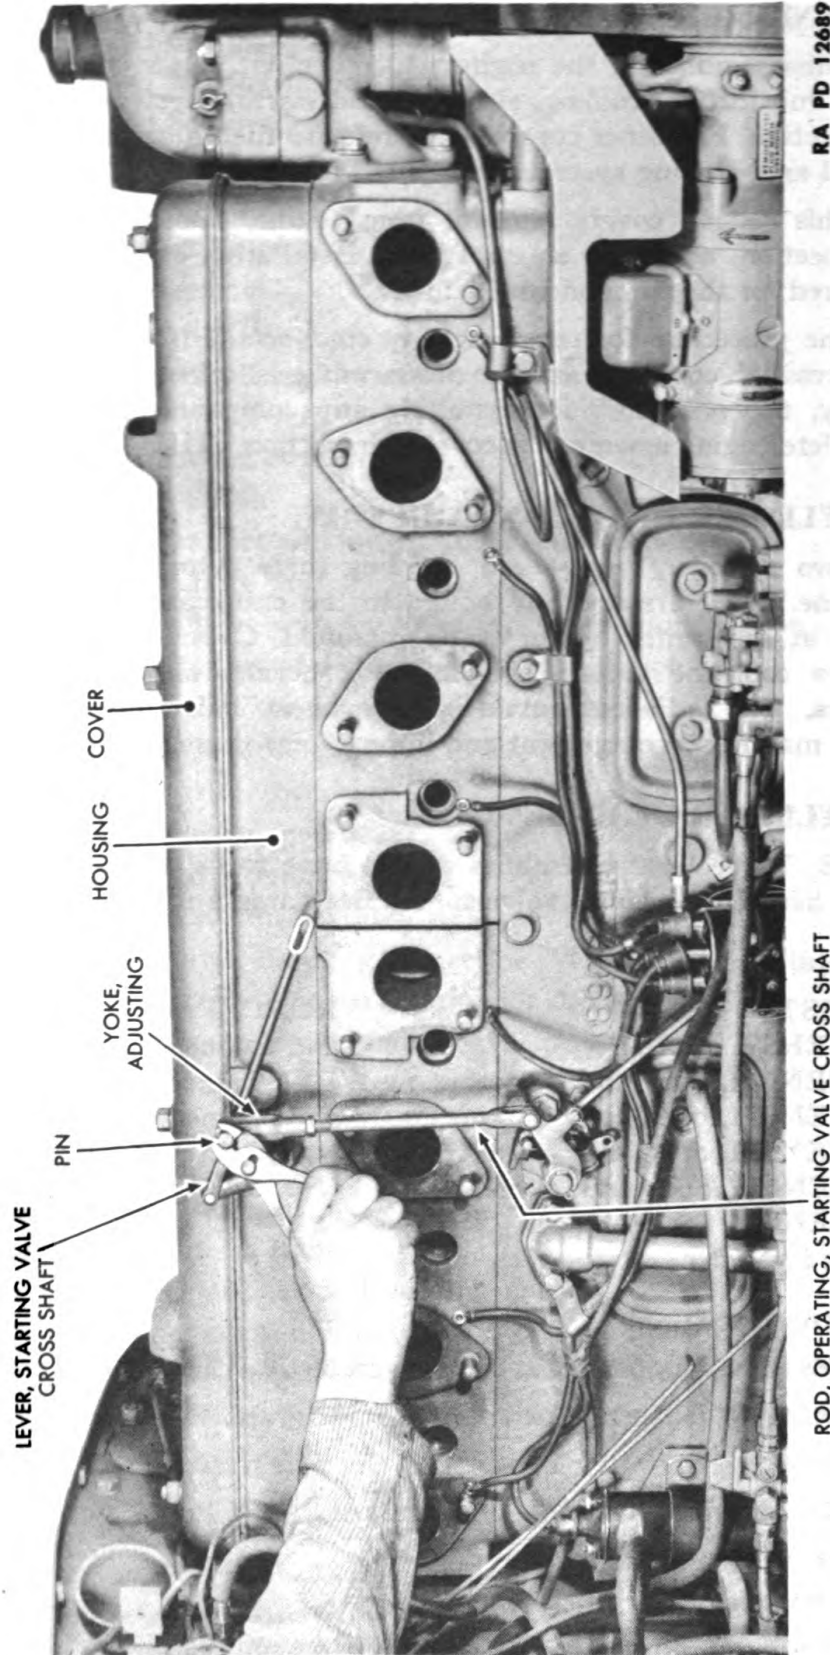

Figure 61—Disconnecting Starting Valve Cross Shaft Operating Rod
(6) DISCONNECT CROSS SHAFT OPERATING ROD FROM CROSS SHAFT LEVER (fig. 61).